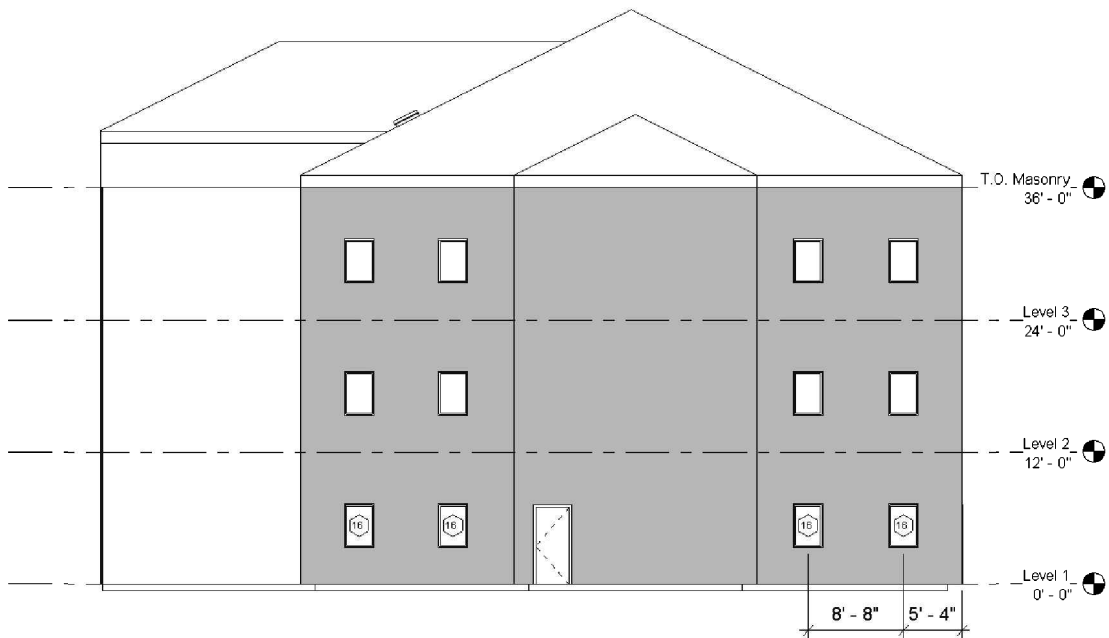

FIGURE 8-2.3 East elevation – windows added
7. Add windows as shown in Figure 8-2.3.